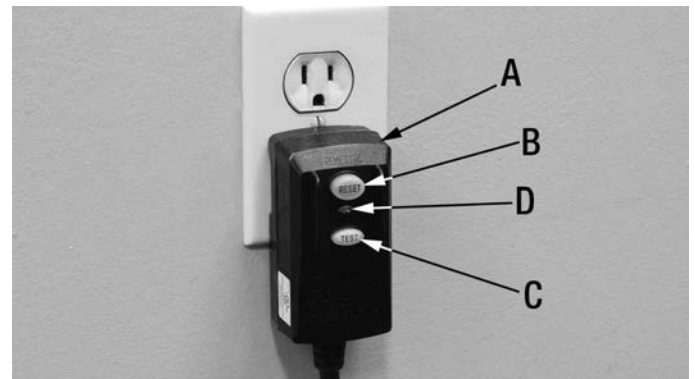
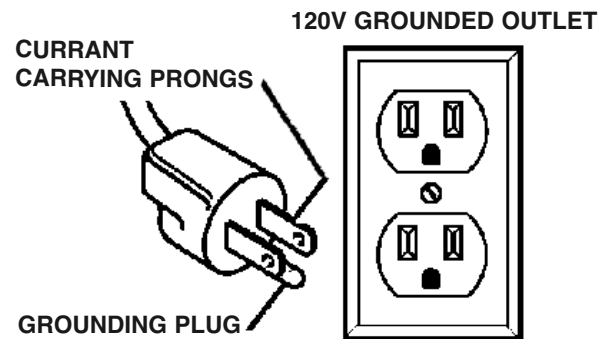
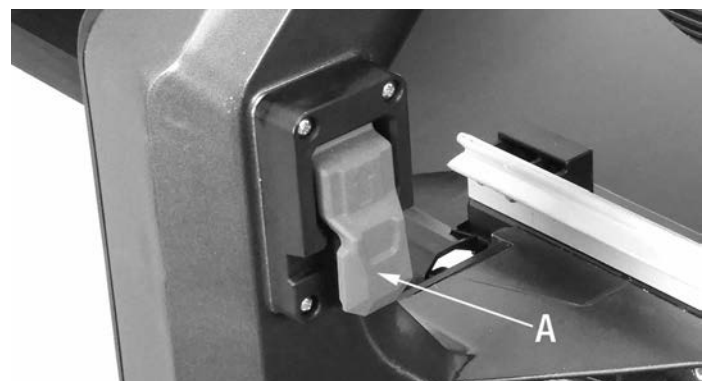

FIGURE 1
FIGURE 2
FIGURE 3
As received from the factory, your tile saw is ready to run for 120V operation. This Tile Saw comes with a GFCI plug (A) Fig.1, which stands for Ground Fault Circuit Interruption. This is a protection device which prevents the motor from overheating during operation by stopping the motor.
This GFCI plug comes with a reset button (B) Fig.1 and a test button (C). To turn Tile Saw "On", plug GFCI plug into a 120V grounded outlet as shown in Fig.2. Press the reset button (B), the indicator (D) should turn on. Now the main On/Off switch (A) Fig.3 can be lifted upwards to turn Tile saw "On".
If you want to test the GFCI plug for proper operation, plug GFCI plug into a 120V grounded outlet. Press the reset button (B) Fig.1, the indicator (D) should turn on. Press the test button (C), the indicator (D) should turn off. Press the reset button (B) again, now the main On/Off switch (A) Fig.3 can be lifted upwards to turn Tile saw "On".
If the GFCI is tripped and the motor stops, push the On/Off switch (A) Fig.3 to the "Off" position. Wait 10-15 minutes for the machine to cool down and then press the reset button (B) Fig.1, the indicator (D) should turn on. Finally lift the On/Off switch to the "On" position to turn machine on again.